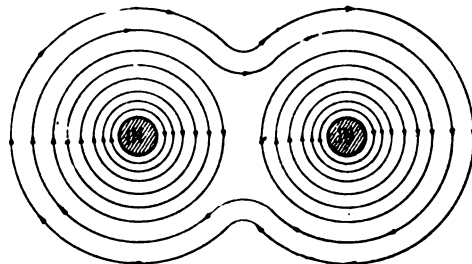

Figure 23
(4) **Figure 23.** To show the direction of the lines of force about two conductors carrying current in the same direction.